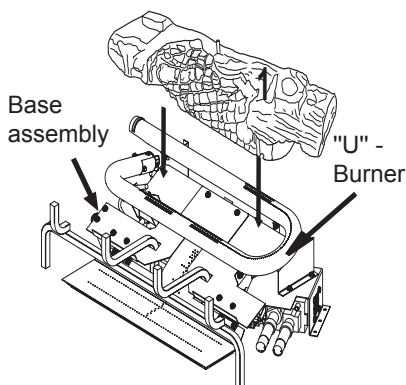

Figure 37 - Installing Log # 1
1. Place the rear log (#1) on base assembly as shown in Figure 37. Log will fit over right end of burner and rest in middle of U-burner.